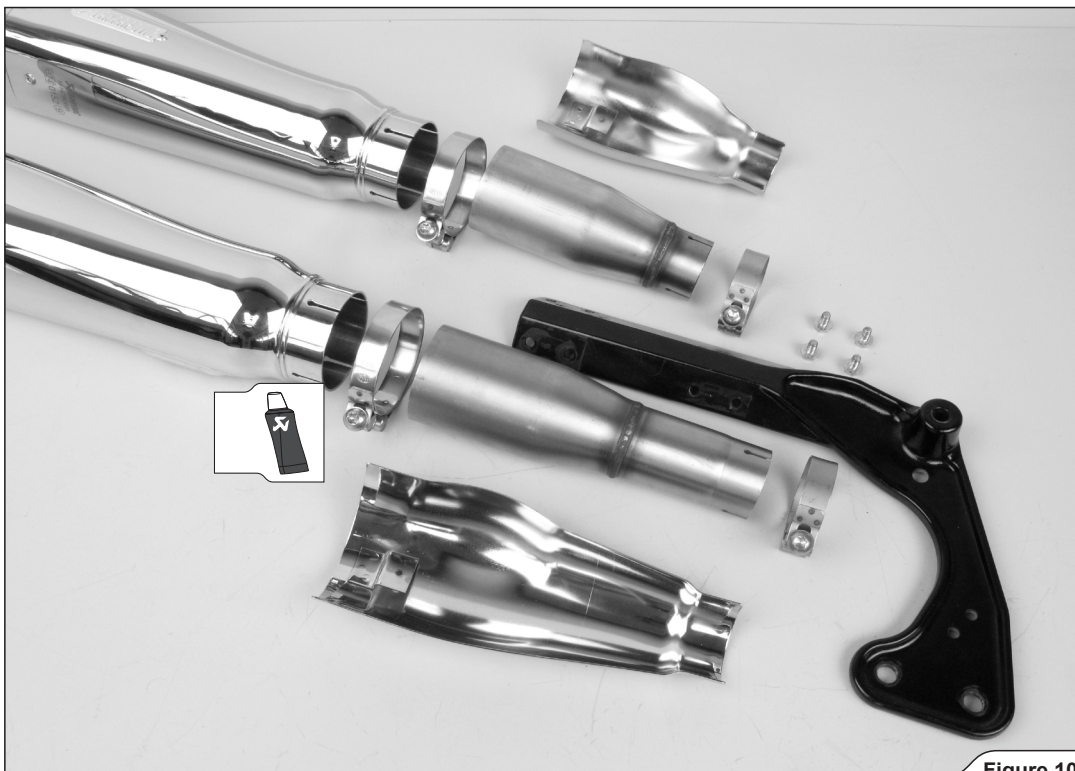

Figure 10
2. Correctly assemble the mufflers, link pipes, clamps and heat shields (Figure 10, 11).